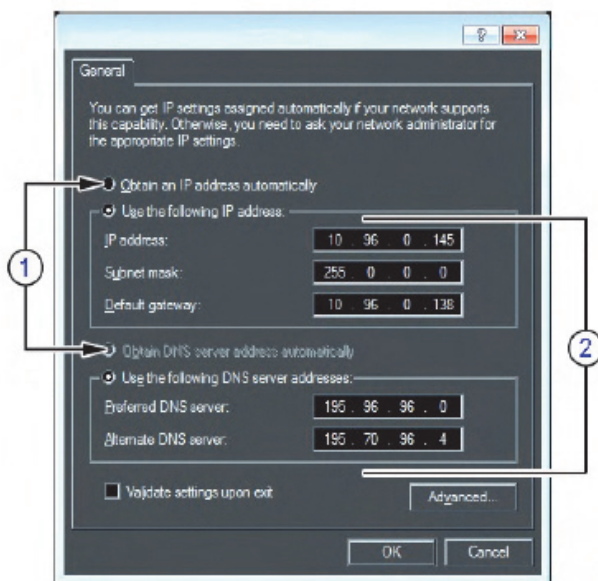

Figure 3-64 Internet Protocol (TCP/IP)
- 5.) Click the **WLAN Configuration** button; see Section Figure 3-64 on page 3-71
- 3.) Click the **WLAN Configuration** button; see Section Figure 3-64 on page 3-71